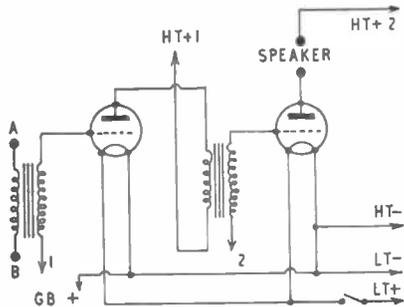
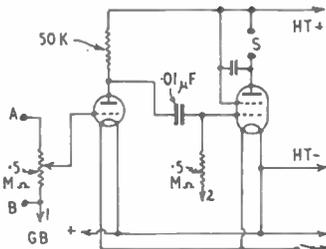

Fig. 3—2-Valve amplifier
Fig. 4—Volume Control & R.C.C.
A volume control is desirable with a 2-valve amplifier, and can be provided by wiring in a $\frac{1}{2}$ megohm potentiometer. When resistance coupling is used, this can be wired as in Fig. 4. If a transformer is fitted, wire outer tags of the control to the transformer secondary, and slider to valve grid.
Fig. 4 also shows Resistance Capacity Coupling between valves. This is not quite so loud as transformer coupling, but using a pentode output valve helps restore volume. A circuit such as that in Fig. 4 is particularly cheap to build, as no transformers at all are wanted. With 1.4 V valves, the anode load resistor may be increased from 50,000 ohms to 100,000 or 200,000 ohms, with advantage.
The 2-valve circuits will give louder results, and are also suitable for 78 r.p.m. records with a general purpose magnetic pick-up. This pick-up would be wired to (A) and (B) in Fig. 4. If Fig. 3 were to be employed, the pick-up